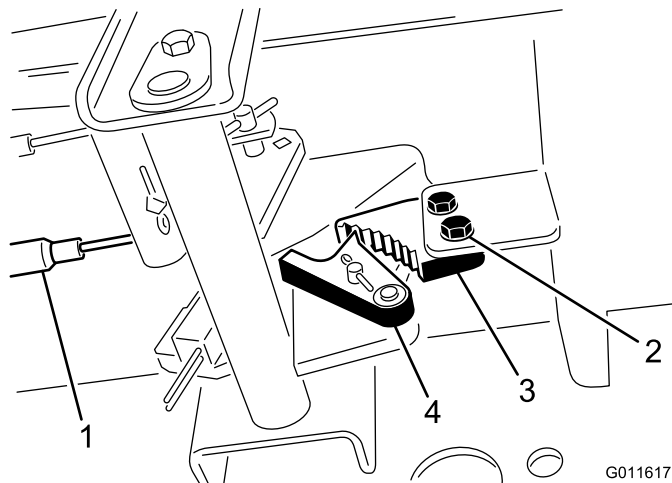

Figure 56
1. Loosen the 2 screws securing the parking brake pawl to the frame (Figure 56).
2. Press the parking brake pedal forward until the brake detent completely engages on the brake pawl (Figure 56).